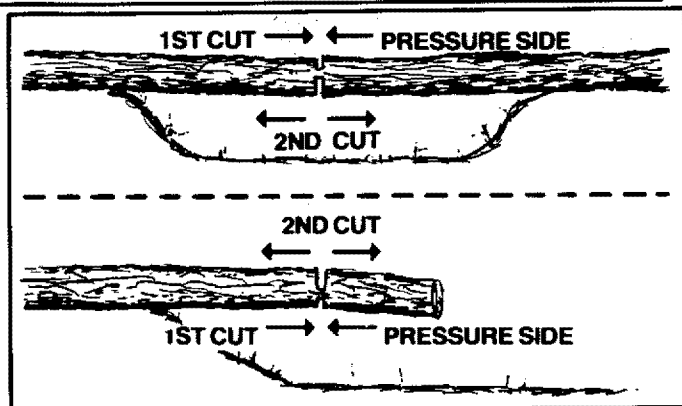

Figure 20
- Give special attention to logs under strain to prevent the saw from pinching. Make the first cut on the pressure side to relieve the stress on the log. Figure 20.